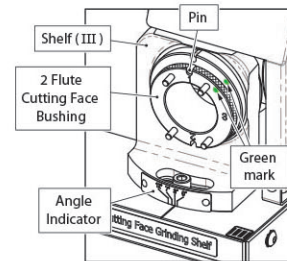

Fig. 5-2
2. Cutting Face Grinding Shelf (III) (Fig. 5-2)
- ① Adjust the Shelf (III) to 3°.
- ② Insert 2 Flute Cutting Face Bushing into the Shelf (III), align No.1 of the bushing to the pin on the shelf, then insert it to the end.